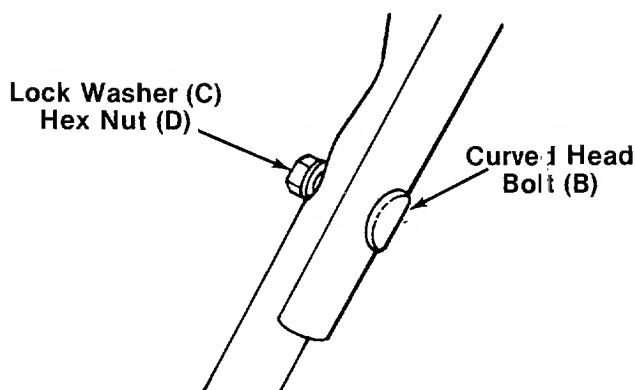

FIGURE 3.
4. Place the upper handle in position over the lower handle. The control housing must be on the right hand side of the handle. Secure the left hand side of upper handle using the curved head bolt (B), lock washer (C) and hex nut (D) as shown in figure 3.